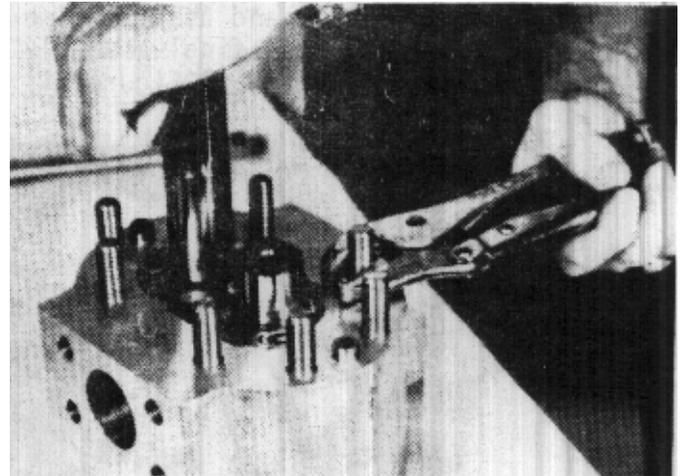

FIGURE 63
38. Install and tighten stud bolts. (Figure 63)